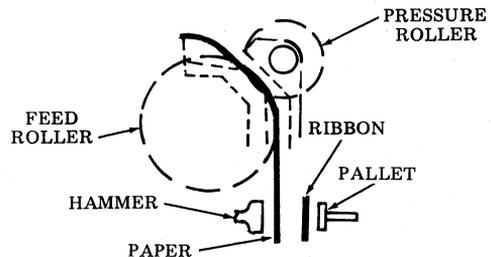

Fig. 53—Friction Feed Printer Without Noise-Reduction Parts
- 9.05 Rotate paper until leading edge appears under pressure roller shaft. Be sure paper is not between type pallets and ribbon (Fig. 53).